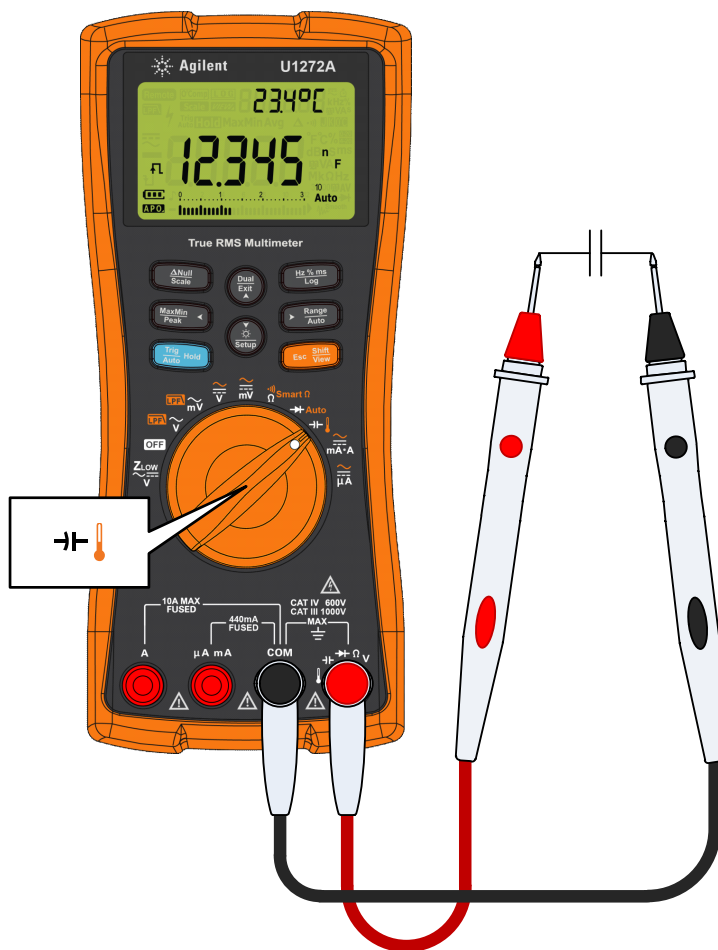

Figure 2-26 Measuring capacitance
- 1 To measure capacitance, position the rotary switch to \rightarrow and set up your multimeter as shown in Figure 2-26.